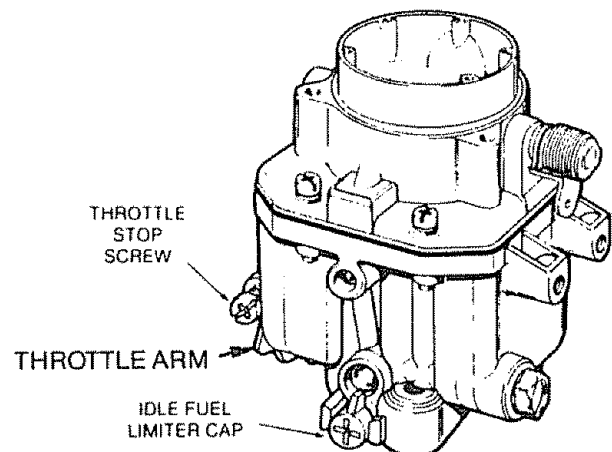

FIGURE 31
- Hold throttle arm against stop screw and adjust throttle stop screw to 1000-1100 RPM (Fig. 31).